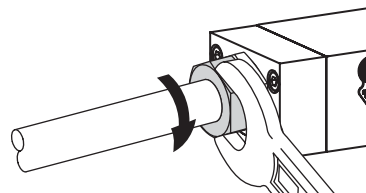

Fig. 16: Nut tightened with an open-end spanner
- Tighten the nut with an open-end spanner to a torque of 25...28 Nm, that is 18.44...20.65 lbf-ft. Refer to Fig. 16.